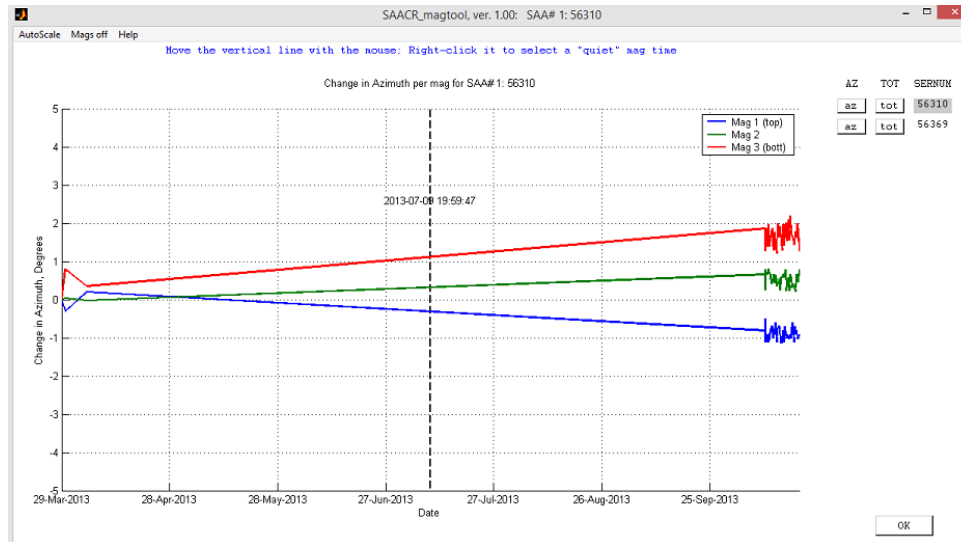

Figure 5.29: The 'Initial' window of the 'Magtool'.
10. SAACR_magtool will open, see **Figure 5.29**, and will show changes in the magnetometer headings over time.